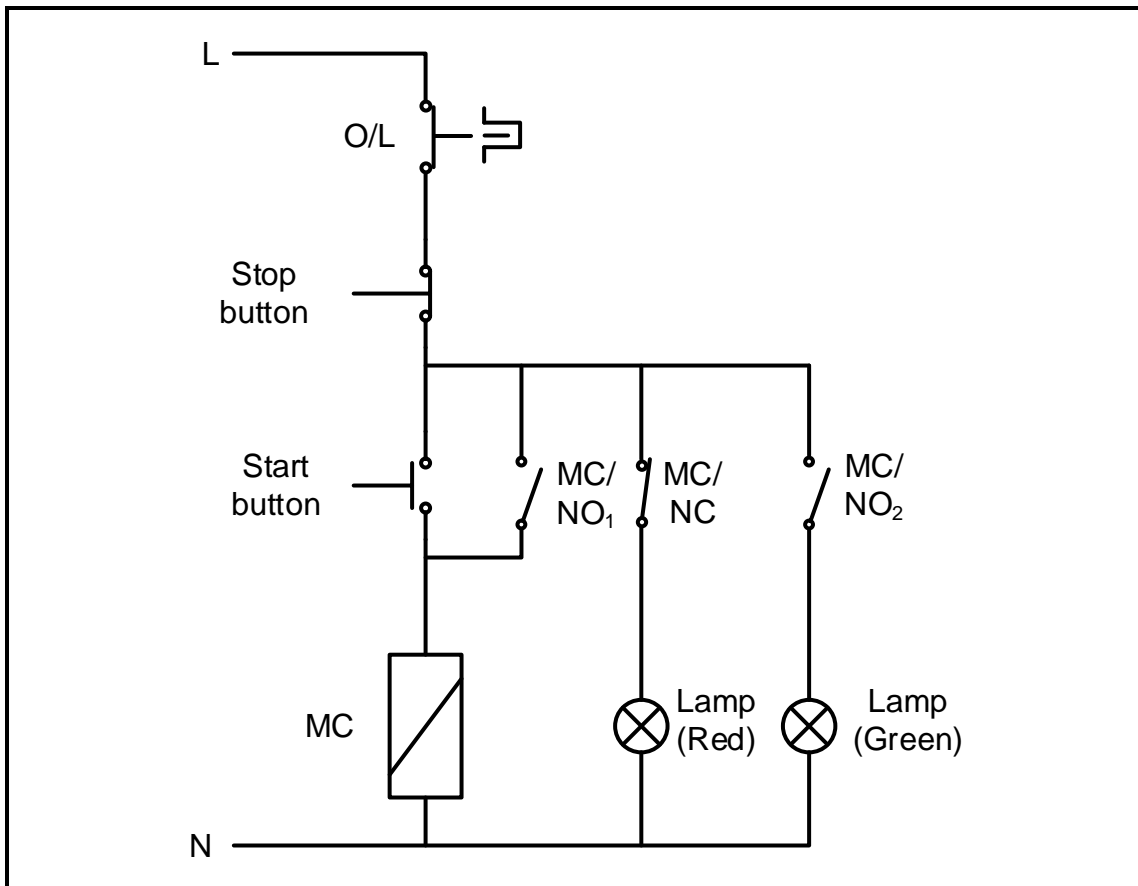

FIGURE 7.5: CONTROL CIRCUIT
7.5 Refer to FIGURE 7.5 below and answer the questions that follow.